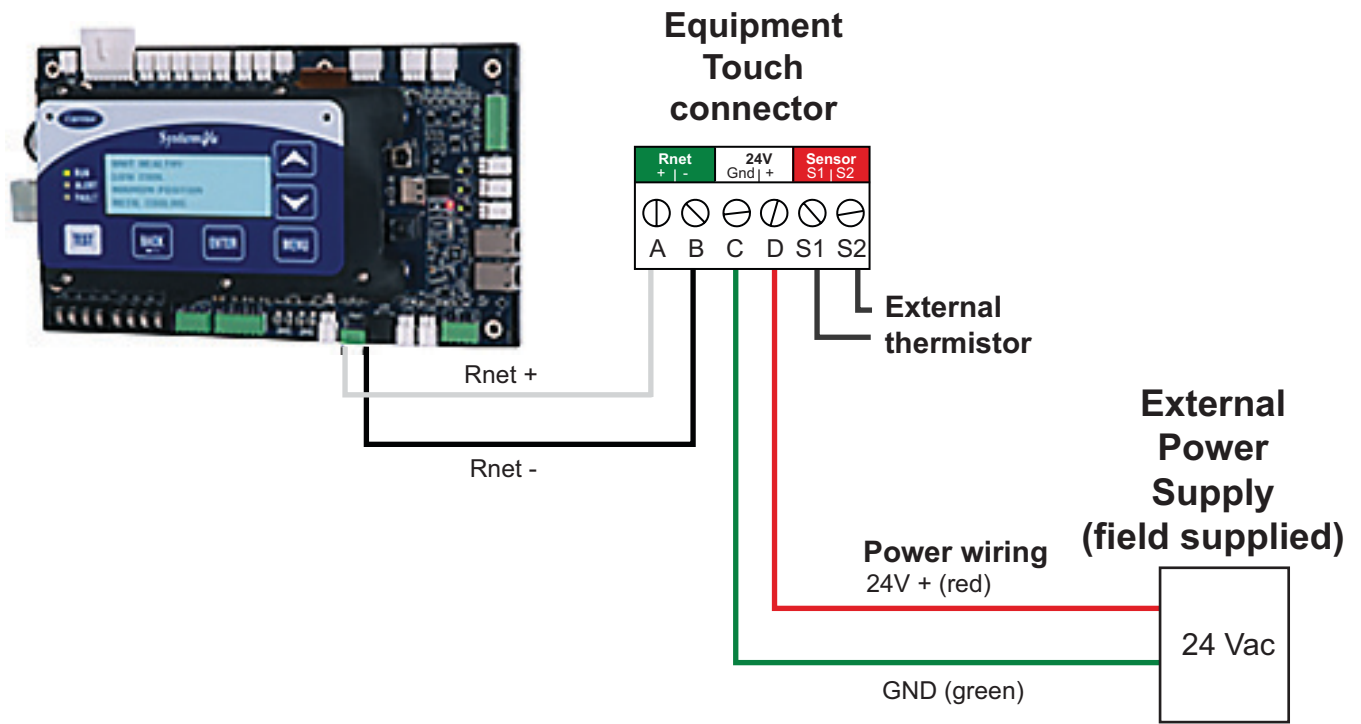

Fig. 11 — SystemVu to Equipment Touch Pin Connections (over RNET)
3. Connect Equipment Touch to SystemVu over Rnet as shown in Fig. 11.